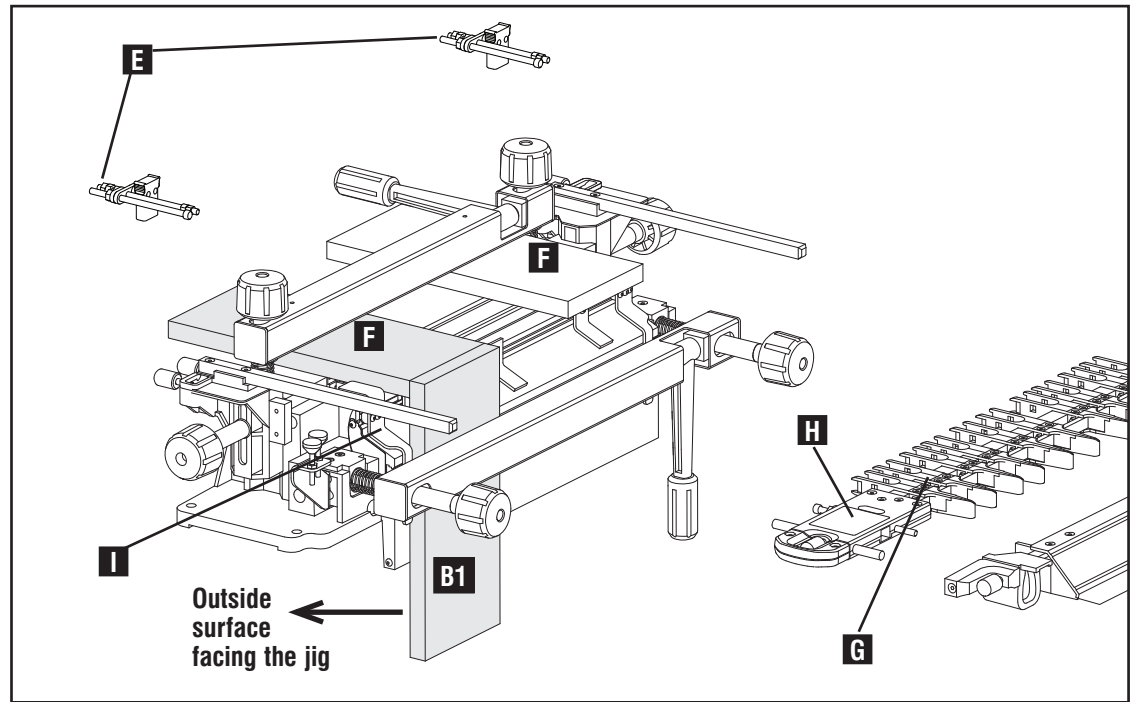

Fig. 16
Use stops (E) Fig. 16 labeled “BOX LEFT” and “BOX RIGHT” for the variable finger template. Use stops labeled “MINI-BOX LEFT” and “MINI-BOX RIGHT” for the mini finger template.
1. Mount horizontal scrap boards (F) Fig. 16 and template (G). Be sure the "B PINS" label (H) is to the left as you face the jig.
2. Vertically mount the first board to be cut (B1) Fig. 16 with the "outside surface" facing the jig. The board should be flush with the left edge guide (I) and tight against the underside of the template (G).
3. To reduce tearout, be sure the horizontal scrap (F) is pulled forward flush with the back of first board B1.